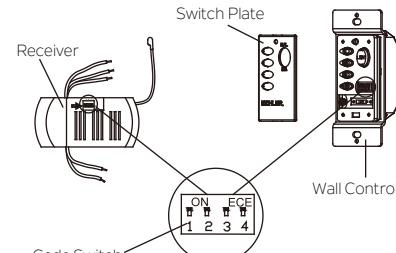

Fig. 13
**Step 1.** Slide the code switches on the receiver to your choice of either up or down using a small ballpoint pen (not included). (Fig. 13)
**Step 2.** To set the code on the wall control, use a small flat screwdriver and gently pry it apart from the top or bottom of the switch plate. Slip the code switches to the same positions as set on the receiver. (Fig.13)